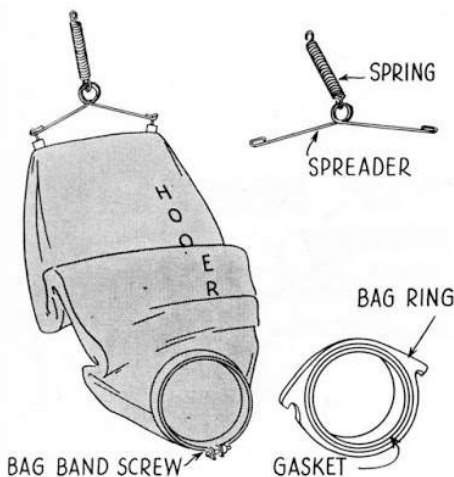

FIG. 34—The closed top bag assembly
2. Figure 34 illustrates the closed-top bag, spreader and spring, bag ring and gasket. This type can be attached directly to the hook on the handle, or a bag spreader may be used. Open top bags can be substituted for closed types on most models if a bag closure clip and spring are used.